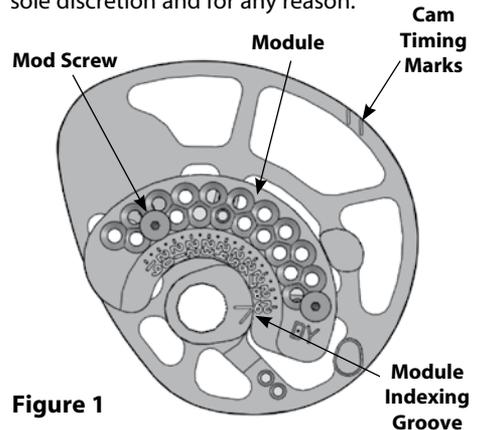

Figure 1
1. Using an Allen wrench, remove the "Mod screws" that attach the module to the cam (**See Figure 1**). Note: Depending on your draw length, you may need to press the bow to be able to access all screws for removal.
Another way to identify timing issues is compare your cam's position in relation to unsplit end of each cable. Look on the module side of each cam, and you will notice two Cam Timing Marks (**See Figure 1**) located near the cam's perimeter. The non-split end of the cable should bisect these marks.